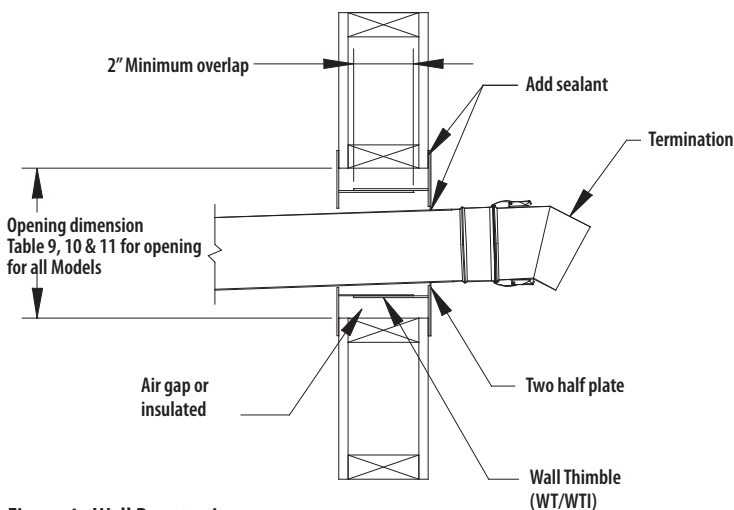

Figure 4 - Wall Penetration
1. Prior to installation, determine proper location of wall thimble (WT) or wall thimble insulated (WTI) so that a minimum slope of 1/4" (6mm) per foot is maintained in the horizontal section of vent to ensure proper flow of condensation.
3. Install the wall thimble by inserting the larger of the two parts on the appliance (interior side). See **Figure 4**.